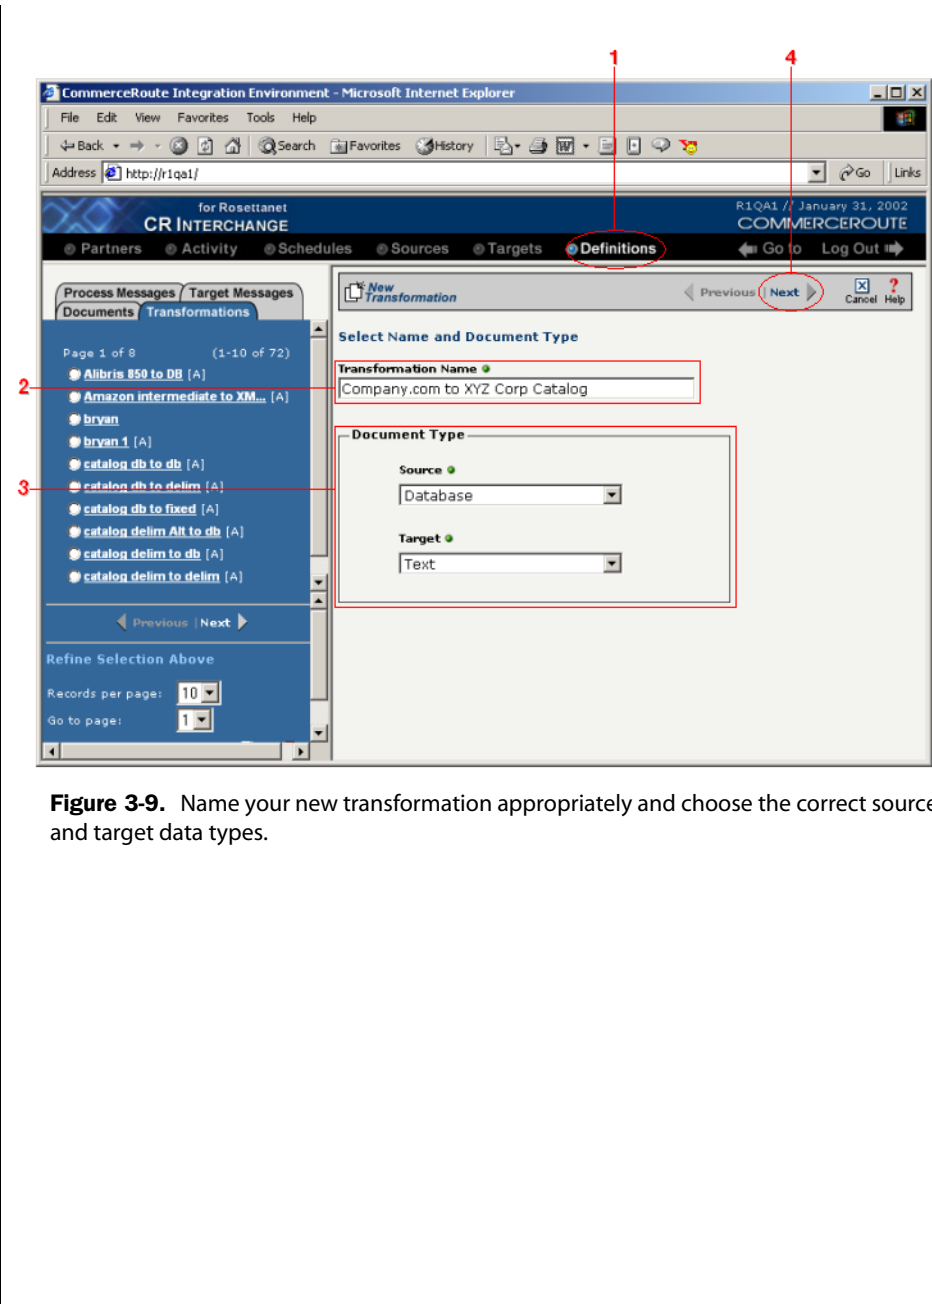

Figure 3-9. Name your new transformation appropriately and choose the correct source and target data types.
- ❶ Select the **Transformations** tab in the upper-left corner of the **Definitions** screen. Click the **New** button in the toolbar. The Transformation Wizard appears.
- ❷ Give this transformation an appropriate name like `Company.com DB to XYZ Corp Catalog`.
- ❸ Since we plan to transform our database information into a comma-delimited file for XYZ Corp., choose **Database** under **Source** and **Text File** under **Target**.
- ❹ Compare your work to Figure 3-9 below, then click **Next** in the toolbar to continue.